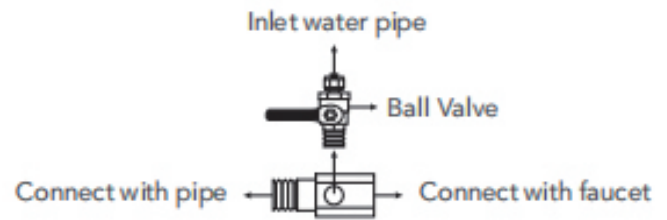

Fig 3.1
(1) Tools Required:
(3) Installation Position Required:
(4) Install Inlet Ball Valve (4A) or Self-piercing Valve (4B) You can choose 4A or 4B based on your preference.
A. Install the Inlet Ball Valve and Tee Fitting according to the **Fig 3.1**